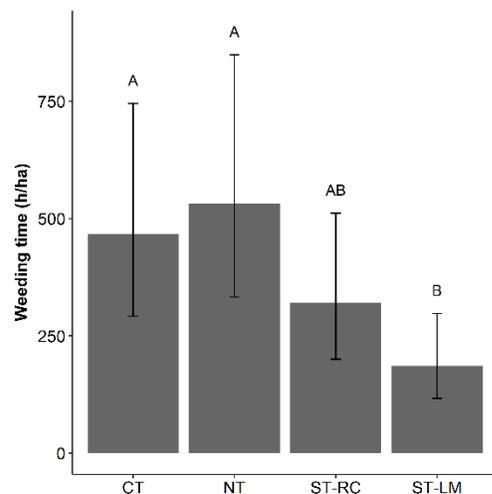

Figure 3. Total weeding time between crop rows.
treatments maintained the killed cover crop residue on the surface, and pepper plants were either transplanted into the residue with no-tillage (NT) or strip-tillage (ST-RC). The final treatment was a conventionally tilled control (CT) where residues were incorporated using a rototiller. Results from the first year of this experiment showed that the living mulch treatment had a significant impact on reducing weed pressure. Time spent weeding was significantly reduced in the living mulch treatment, and the red clover effectively suppressed weed germination and growth (Fig. 3). Importantly, the red clover living mulch suppressed species of perennial weeds as well as the conventional tillage treatment, whereas the other reduced tillage treatments had a relatively high proportion of perennial weed species. Even in the absence of hand-weeding, weed biomass was significantly reduced in the living mulch treatment. Finally, total marketable yield production was highest in the conventional tillage treatment, slightly lower in the living mulch treatment, and lowest in the organic mulch treatments. This reduction in yield was likely due to shading causing cooler soil temperatures and a delay in pepper plant growth and reproduction.